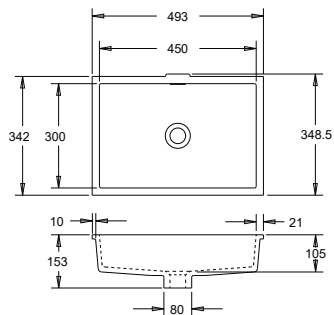

Figure 4.
5. Gently place basin on a protective blanket free from debris. Apply a neat generous bead of adhesive silicone sealant around the lip where the basin touches the bench top. See figure 4.